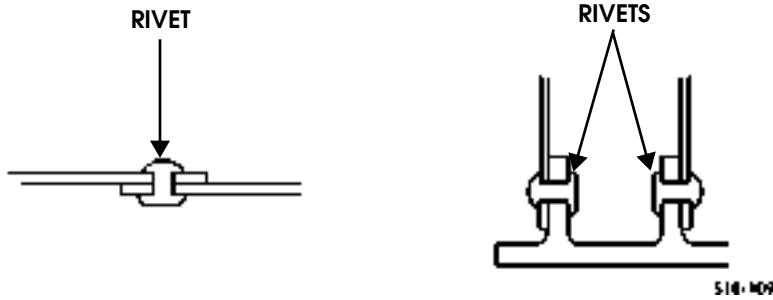

Figure 10-2: Rivet Loads in Shear
2. Rivets are designed to be loaded in shear. Do not create any new joints during repairs which cause rivets to be used in a tension application. Bolts should be used for tension applications or substituted for rivets in very high shear load applications (Figures 10-2 and 10-3).